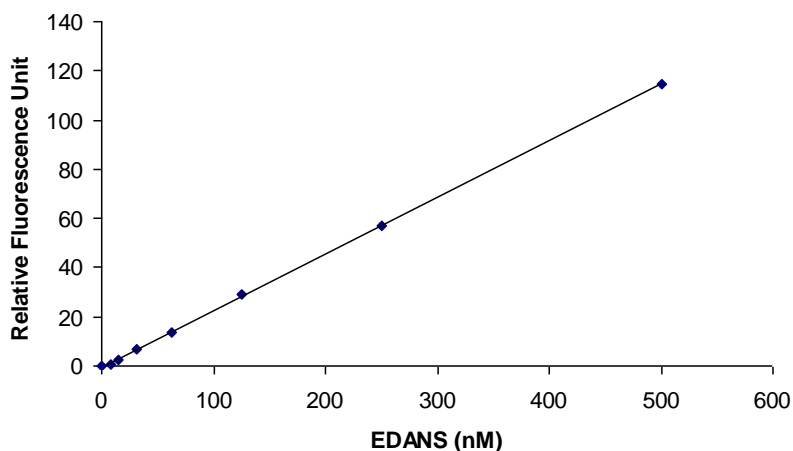

Figure 3. EDANS reference standard calibration curve.
- Plot EDANS fluorescence reference standard curve as RFU (relative fluorescent units) versus concentration as shown in Figure 3.